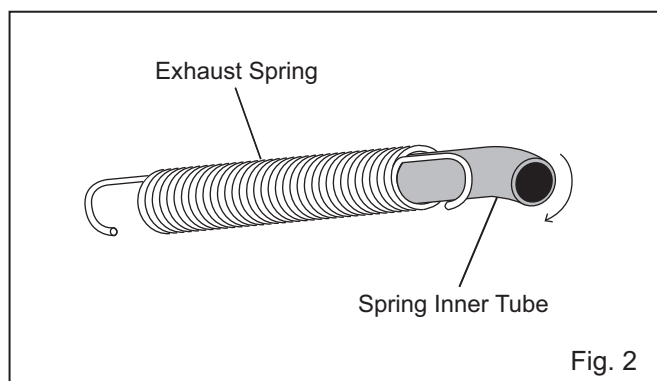

Fig. 2
- 3) Insert Spring Inner Tube into Exhaust Spring (See Fig. 2).